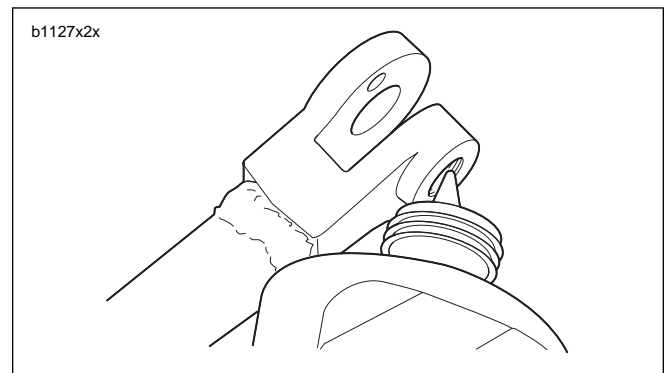

Figure 2-140. Threaded Area for Loctite Application
- b. See Figure 2-140. Apply LOCTITE 272 (red) to threaded area (clevis) of sidestand leg.